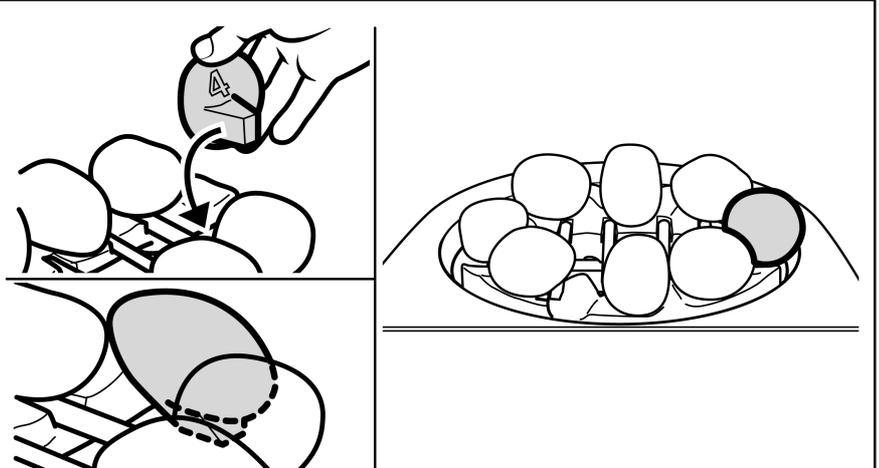

Figure 36 Pebble number '4' Location
7. Pebble '4' has a location peg on the underside. The peg has a chamfer on one side. The chamfer must face the burner. Locate pebble '4' onto the right hand side of the pebble base. It should bridge the gap between the front and rear halves of the pebble base. Pebble '4' should not touch the burner cover (See figure 36).